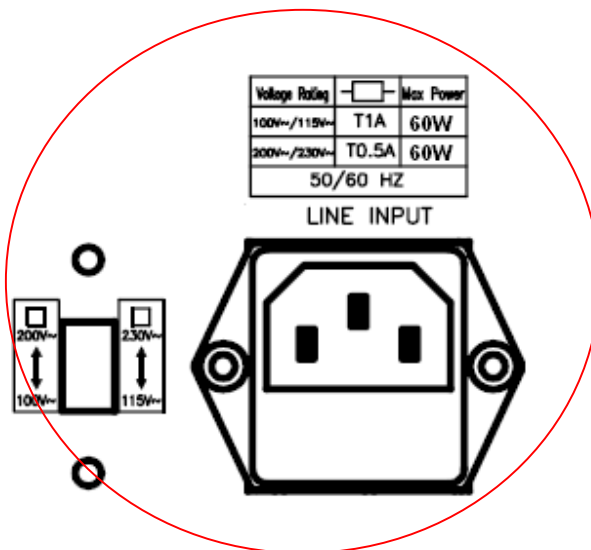

Fig 2-1 SET OF SWITCH
- 2.2.2 Refer the drawing on the rear panel in Fig 2-1, set the switches to the Proper voltage as described in the following: